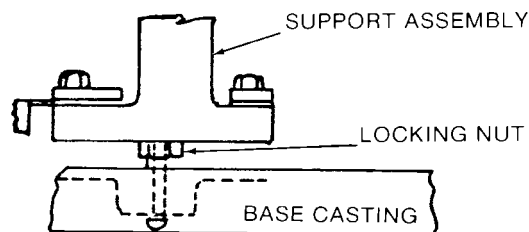

FIGURE 6
2. Loosen the locknut on the backstroke screw. See figure 6.